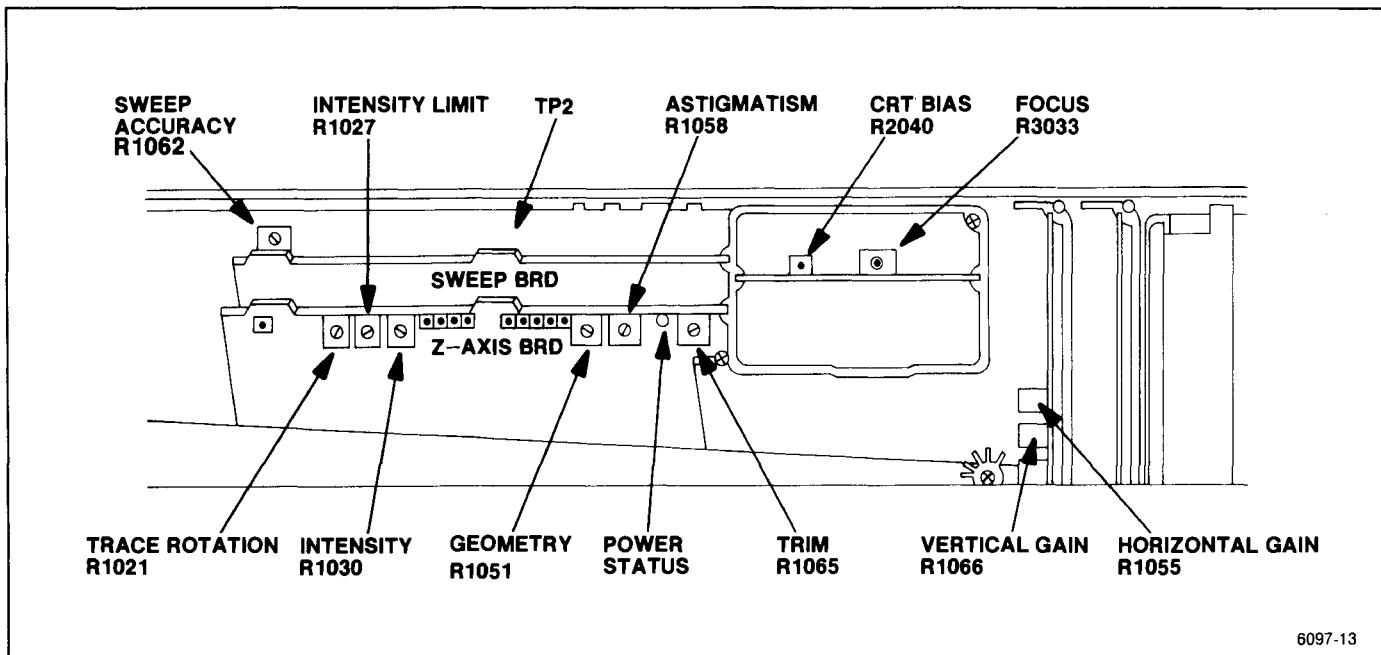
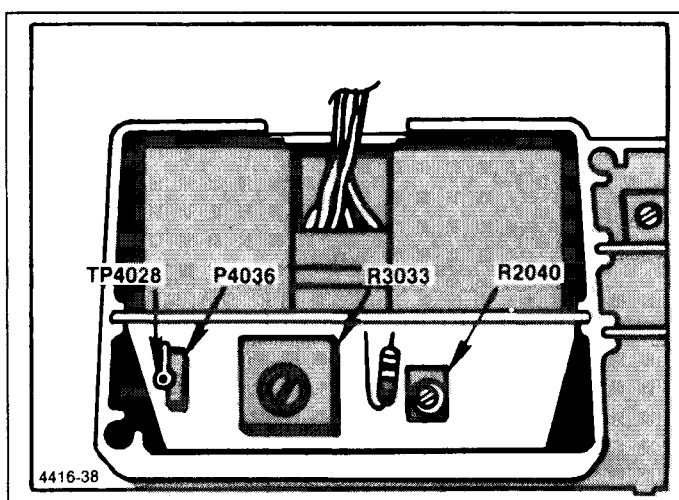

Figure 5-2. Crt display adjustment and test point locations.
Figure 5-3. Adjustment and test point locations on High Voltage module.
b. Remove the cover over the Z-Axis and Sweep boards. Set the Intensity Limit R1027, on the Z-Axis board (Figure 5-2) fully counterclockwise and Crt Bias R2040, on the High Voltage board (Figure 5-3) fully clockwise.
(2) Turn the INTENSITY clockwise until a crt beam dot appears on screen.
(3) Focus the dot by adjusting R3033 on the High Voltage board (Figure 5-3) for the smallest round dot.
(4) Set the INTENSITY for a collector voltage 5.5 V higher than the voltage noted in part d, subpart 1.
(5) Use the non-metallic screwdriver to adjust Crt Bias, R2040, counterclockwise until the crt beam is visible, then clockwise until the beam dot just extinguishes, with the screen shaded. (If no dot appears, with the adjustment fully counterclockwise, this will be the bias setting.)
(6) Turn the INTENSITY clockwise until a dot is visible then defocus the dot with the Focus adjustment, R3033. Adjust Astigmatism R1058 (Figure 5-2) for a round dot then refocus with R3033 for the smallest and sharpest dot.
(7) Turn the INTENSITY counterclockwise until the dot just disappears, and again measure the collector voltage at Q4058 or Q4059. Voltage should equal or exceed the voltage set in part d, subpart 4. If the voltage is less, repeat the procedure for setting Crt bias.
(1) Switch POWER off, then remove P4036 (Figure 5-3) on the High Voltage board. Turn INTENSITY fully clockwise, MANUAL SCAN fully counterclockwise, and ensure that the TIME/DIV is in the MNL position. Set the Intensity Limit R1027, on the Z-Axis board, (Figure 5-2) fully clockwise.
(2) Connect the voltmeter between TP4028 (Figure 5-3) and the ground lug on the crt shield. Switch POWER back on. After the instrument initializes, activate 2 dB/DIV and switch Digital Storage off.
- (3) Adjust Intensity Limit R1027 (Figure 5-2) for a voltage reading of 0.9 V at TP4028.
- (4) Switch POWER off and re-install the jumper P4036 on the High Voltage board. Turn POWER on and adjust the INTENSITY for normal viewing.
- g. Activate ZERO SPAN and adjust REFERENCE LEVEL until the trace is approximately mid-screen; then adjust the Trace Rotation R1021 (Figure 5-2) so the trace is aligned with the graticule lines.
- h. Activate VIEW A and VIEW B then use the PEAK/AVERAGE cursor, positioned at the top then bottom of the screen, as a reference line to adjust Geometry R1051 (Figure 5-2) for the straightest trace at top and bottom of the screen.
- j. Adjust Intensity R1030 (Figure 5-2) so the brightness of the readout characters is slightly higher than the trace. Readout characters should be just visible after the trace has disappeared. This ratio provides the
- c. Adjust Vert Gain, R1066 (Figure 5-2) for a full screen display.
- e. Set TIME/DIV to MNL. Monitor TP2 on the Sweep board (Figure 5-2) with a voltmeter (Digital Multimeter). Set the MANUAL SCAN control for 0.0 V reading on the voltmeter (TP2). Set the horizontal POSITION control to center the CRT beam (dot).
- g. Adjust Horiz Gain, R1055 (Figure 5-2) to position the crt beam to the right graticule edge (10th graticule line).